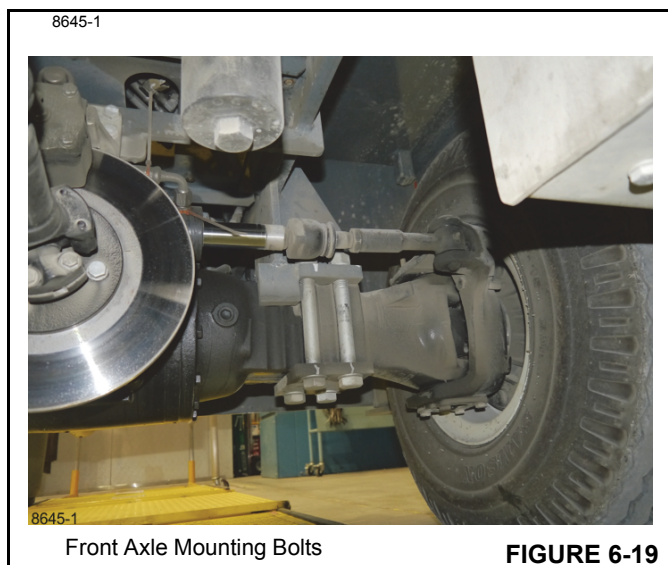

FIGURE 6-19
Torque the 1" axle mounting bolts (8) to 782 Nm (575 lb-ft). See Figure 6-19.